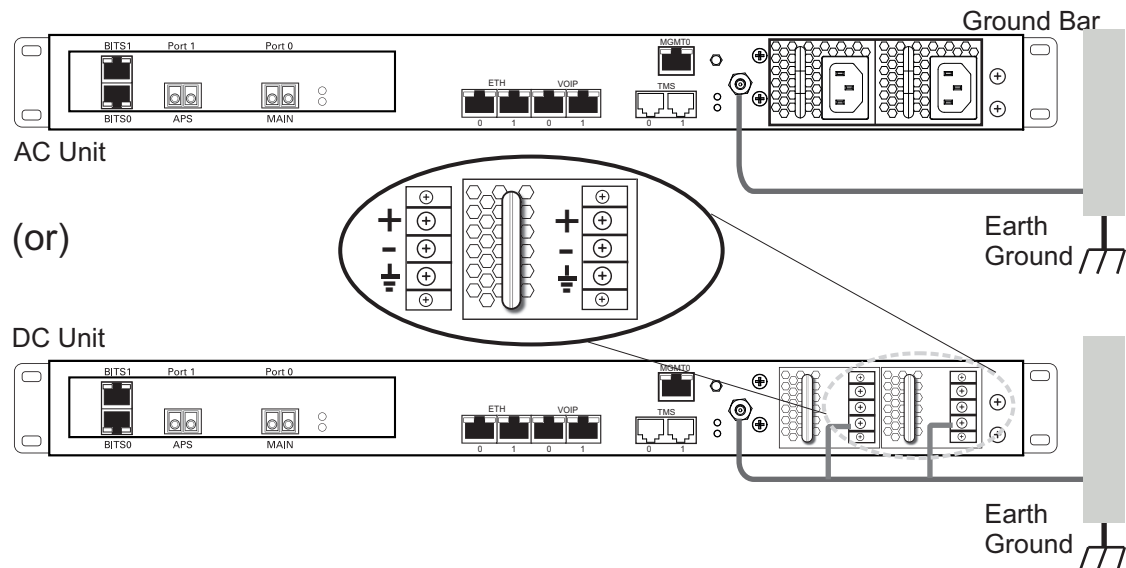

Figure 2.7
- Do NOT daisy chain the ground between equipment. Use a ground bus bar, as show in figure 2.7 on page 22.
1. Connect one end of a ground wire to the ground lug of the 3200 series gateway (AC or DC model). See figure 2.7 on page 22.